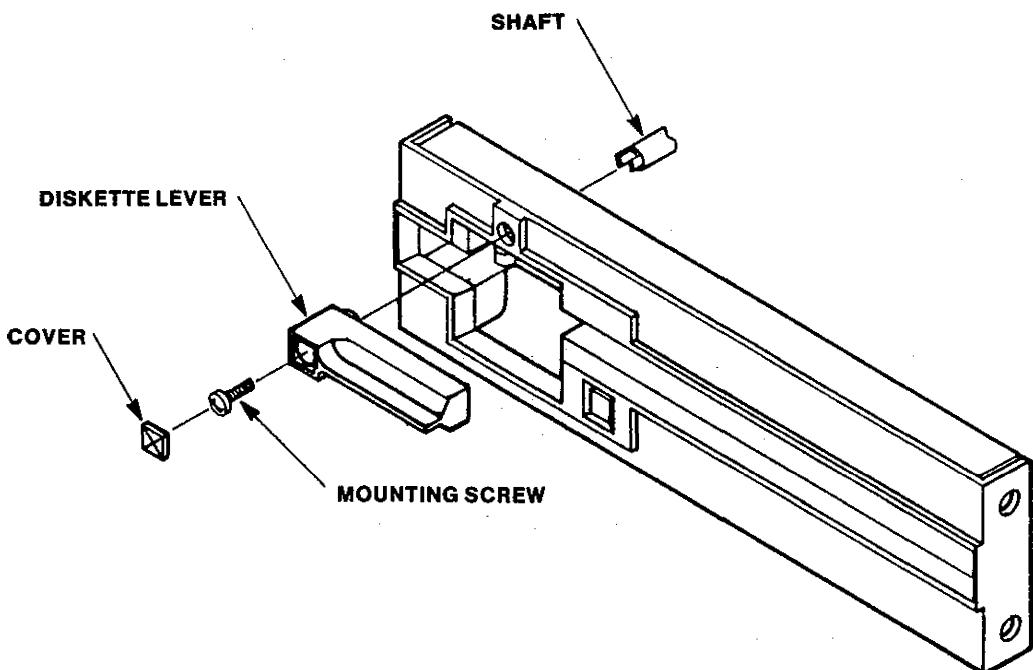

FIGURE 6-4
1. Pry off the cover that hides the diskette lever's retaining screw (Figure 6-4).